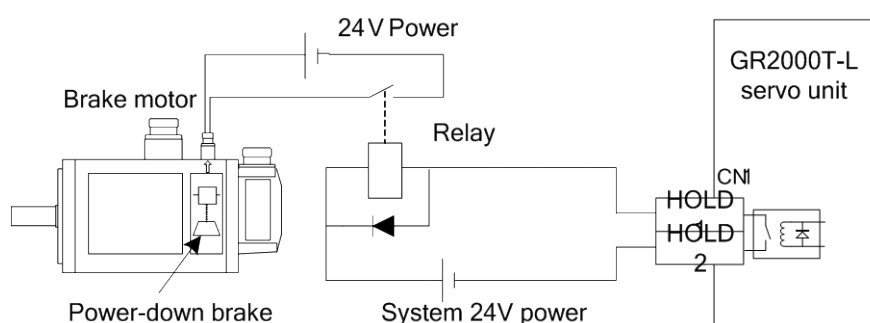

Fig. 6-2 The typical example of the HOLD± brake releasing signal
① First of all, correctly connect the wiring based upon the Fig. 6-2; it is very essential to note that the required input signal in the following table must be connected.
The brake releasing signal, in the Fig. 6-2, controls the actual wiring principle of the brake motor. The 24V in the following figure is offered by user. The brake releasing signal (HOLD) is relay NO contact output. Its wiring is shown below: